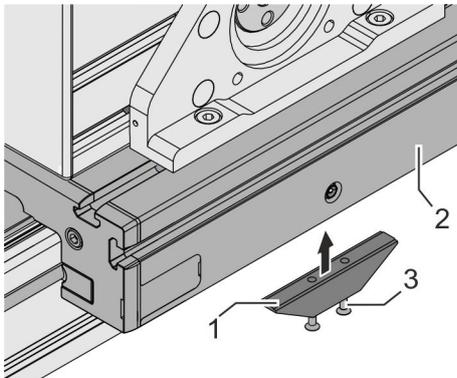

Fig. 37: Assembling the actuator
1. Place the actuator (Fig. 37/1) at the height of the holes below the guide carriage (Fig. 37/2).
2. Tighten 2 screws (Fig. 37/3):